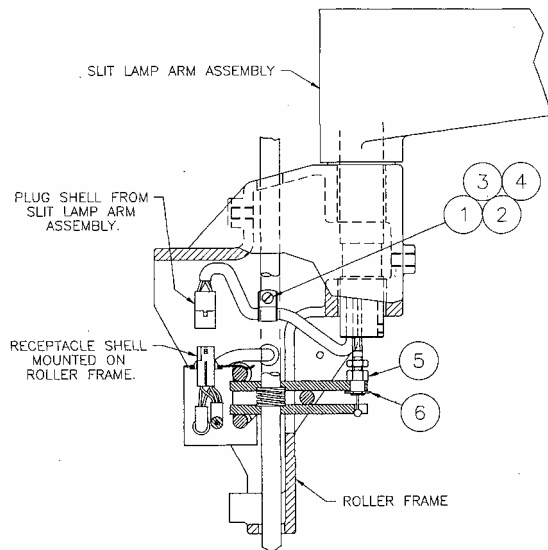

FIGURE 2
7. Rotate item 6 {figure 2}, retaining ring to expose slots. Using square slotted blade screwdriver, pry "E" retaining ring from item 5 {figure 2} lock cable.
8. Squeeze the two lock shoes together and slide the ball in the release cable item 6 {figure 2} from the bottom shoe.
10. Using 3/8" open end wench and square slotted blade screwdriver Remove item 1 {figure 2}, locknut and item 2, machine screw.